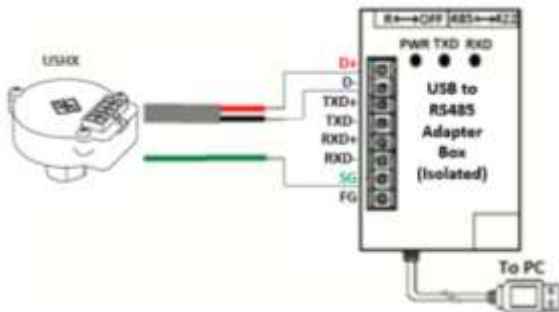

Figure 20 - USHX-to-RS485 converter connection
- Connect the RS485 communication wires (2-wire gray cord that contains a red and a black wire and the green data ground wire) to the D+, D-, and SG terminals on the USB-to-RS485 converter as shown below in Figure 20. For the USHX setup, the RS485 will require an adapter with built-in electrical isolation.